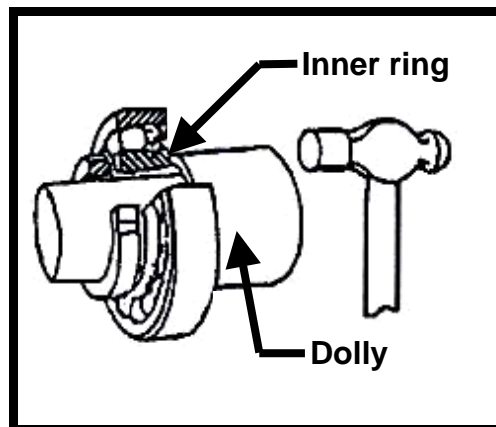

FIGURE 1.1
- 1.1 FIGURE 1.1 shows one of the ways to remove and replace adapter bearings. What safety procedure is shown in FIGURE 1.1?